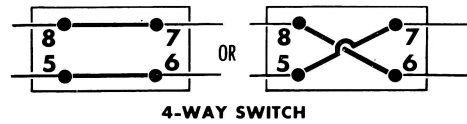

Figure 4
A 4-way switch operates as shown in Figure 4. When the switch is turned one way, it connects terminal (5) to terminal (6), and terminal (8) to terminal (7). In its other position, (5) is connected to (7) and (6) to (8).